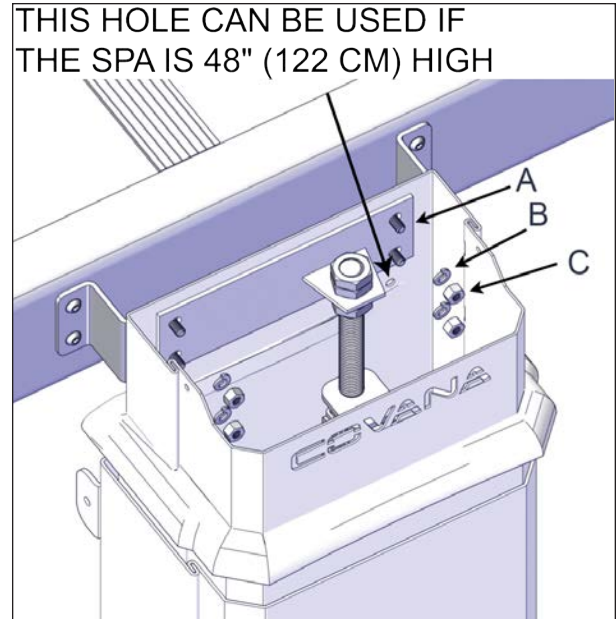

**FIGURE 75: ATTACH THE CABLE TO THE BOTTOM OF THE MIDDLE SLEEVE**
- One end of a cable is already attached to the top of the jack. Attach the other end to the bottom of the middle sleeve using the 1/4-20 hexagonal nut as well as the 1/4-20 x 5/16" hexagonal head screw + 1/4" internal/external tooth lockwasher assembly, see Figure 75.